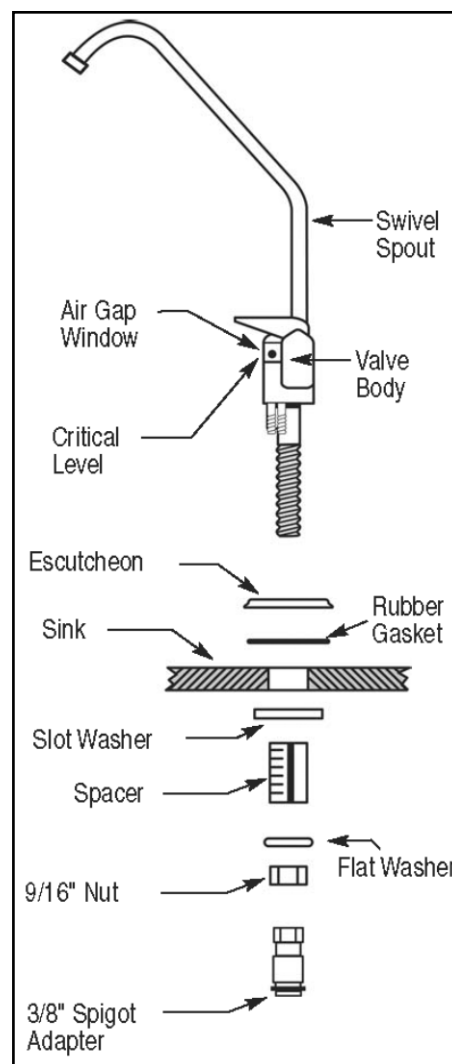

Figure 5: Air Gap Spigot Assembly
- A. Using the diagram in Figure 5, assemble the Air Gap Spigot with all the components except the slot washer. Begin with the escutcheon, followed by the rubber gasket, spacer, flat washer, 9/16-inch nut, and 3/8-inch spigot adapter.